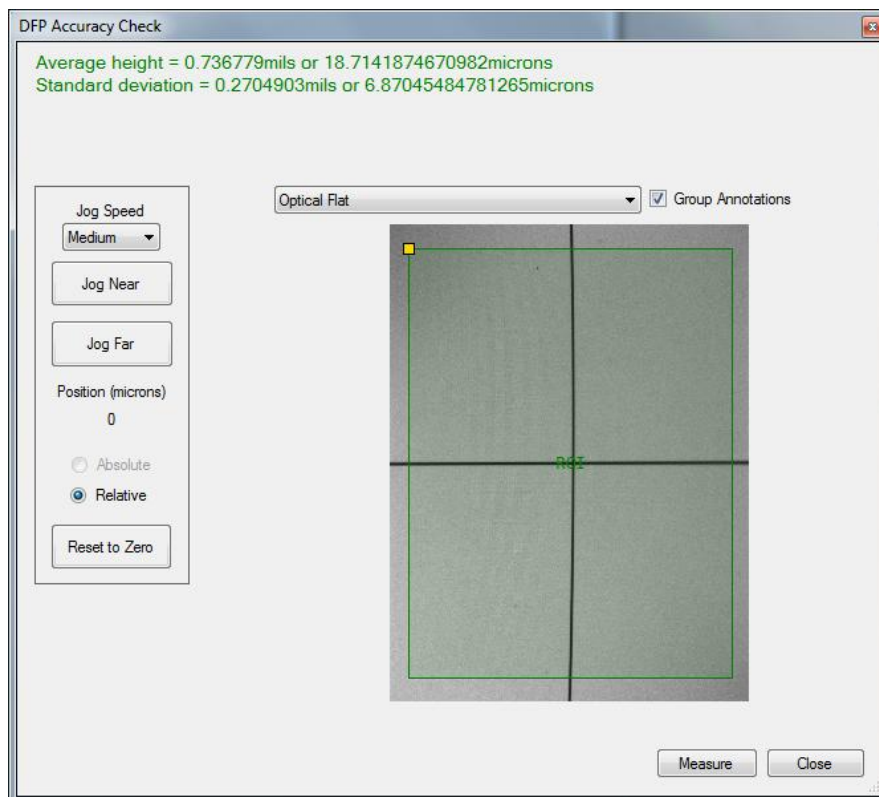

Figure 3.5 Accuracy Check Optical Flat Dialog
4. Alternatively, set the Accuracy Check dialog to Optical Flat mode (**Figure 3.5**) and measure the optical flat. The standard deviation measured should be below $10\mu\text{m}$.